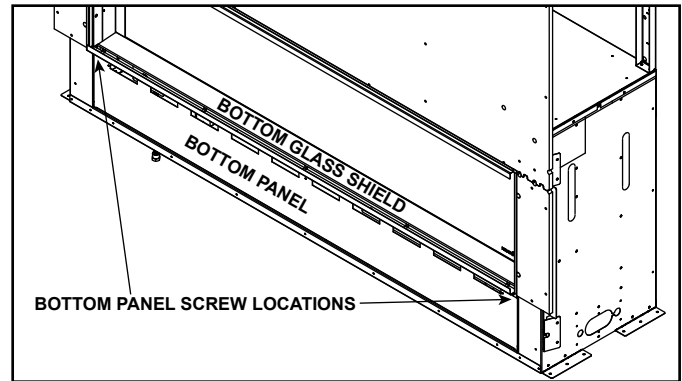

Figure 8.1 Bottom Panel Location
1. Remove bottom panel by removing two screws. Screw locations are shown in Figure 8.1. After removing two screws, gently lift the panel off the appliance avoiding contact with the non-combustible board if possible.